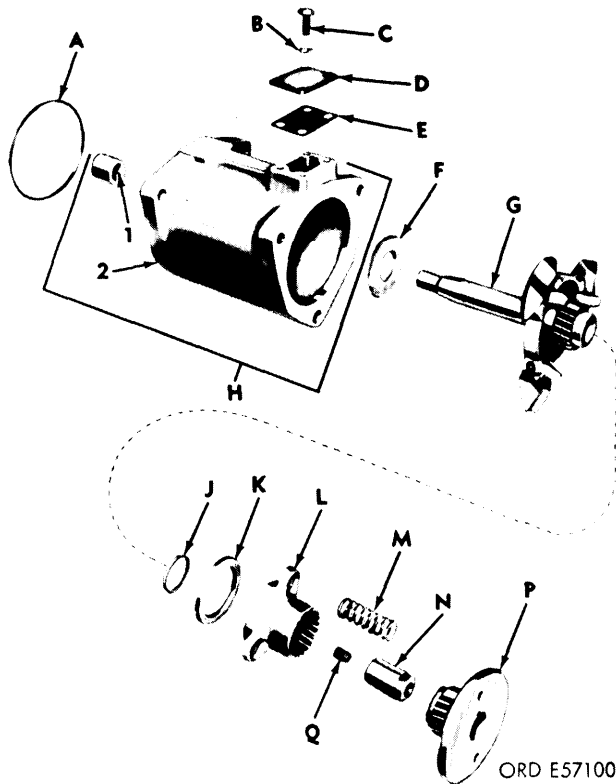

Figure 3-97. Timing device assembly, exploded view.
(1) Refer to figure 3-97. Check the components of the timing device assembly against the limits specified in the repair standards (para 3-63) and replace the components when they do not meet these requirements.
KEY to fig. 3-97
(1) The parts for the universal timing device repair kit are listed in Appendix B. When any part in the repair kit—5702661 except hardware items, must be replaced, replace all parts applicable to the timing device assembly.
(2) Refer to figure 3-97. Do not install timing cover at this time. The timing device assembly parts will be installed during assembly of pump.